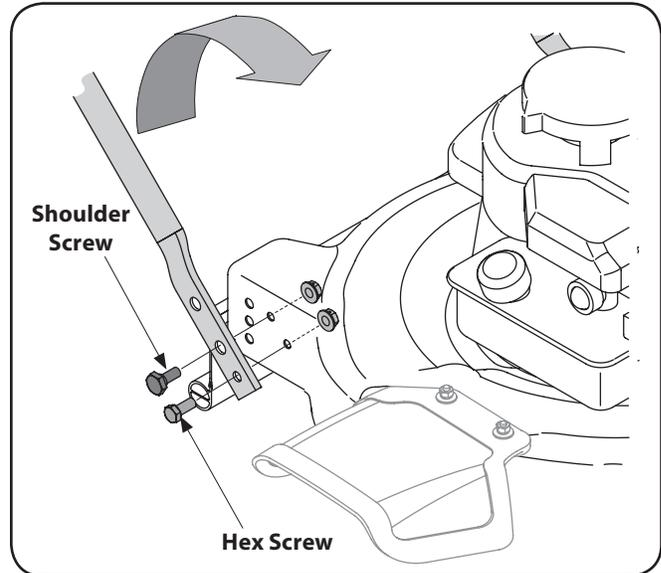

Figure 3-2
3. Pivot the lower handle forward and secure it to the deck using the hex screws, shoulder screws, and flange lock nuts. See Figure 3-2.